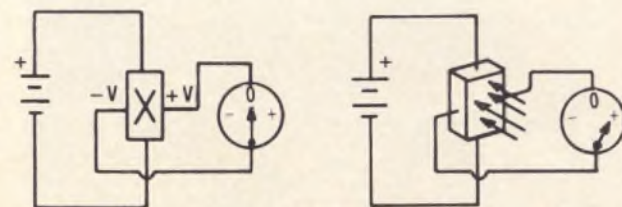
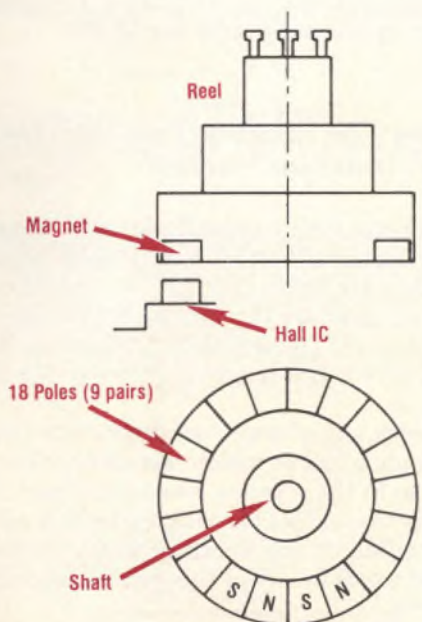

Fig. 3: A hall-effect sensor produces a voltage when in a magnetic field.
Fig. 4: The alternate changing of the magnetic poles in this type reel sensor causes the voltage from the hall-effect IC to turn on and off as the reel turns.
**Hall-effect** sensors are often found in the servo circuits and are sometimes used for takeup reel sensor (Figure 3). A hall-effect sensor consists of a small sheet of semiconductor material. A voltage is applied across the sheet and a constant bias current flows. There are plates on two other sides of the semiconductor material. In the absence of a magnetic field, no voltage exists across these plates. When a magnetic field is applied at right angles to the plate, a current is produced inside the semiconductor material that then appears as a voltage difference on the plates. A hall-effect sensor must have a voltage source to work. In addition, the magnetic field must be correctly oriented with the sensor. In the case of a takeup reel sensor, a magnet rotates with the takeup reel and allows current to flow through the sensor when the magnet comes in close contact with the sensor as shown in Figure 4. ■